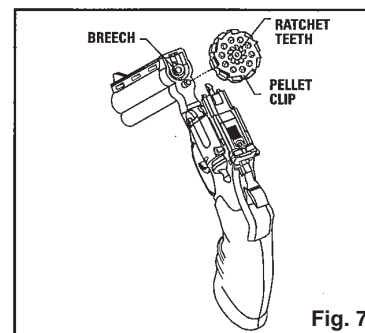

Fig. 7
- Replace the pellet clip on the barrel (ratchet teeth facing you). (Fig. 7)
- Replace the empty pellet clip (ratchet teeth facing you) on the barrel (See Fig. 7).